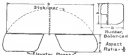

FIG. 7. DIAGRAM FOR ANGLE RAYED IN RUDDER AND ELEVATOR
(7) To obtain the accuracy of steering large forces on the controls, it is possible to use a balanced rudder, one in which the hinge is placed about in the position of the center of pressure at small angles. The rudder on Fig. 7 is a balanced rudder. It should be noted that the "balancer" is only approximate.